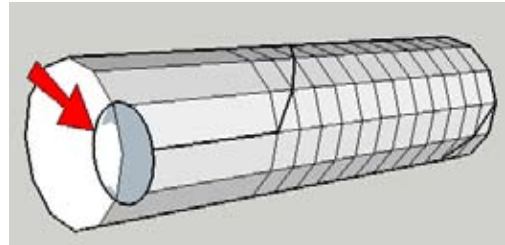

Figure 2-96
7. Orbit back to the beginning of the first, long segment you traced. Using the starting end of this segment as the center point, draw a vertical circle as your Follow Me face, as shown in Figure 2-96.